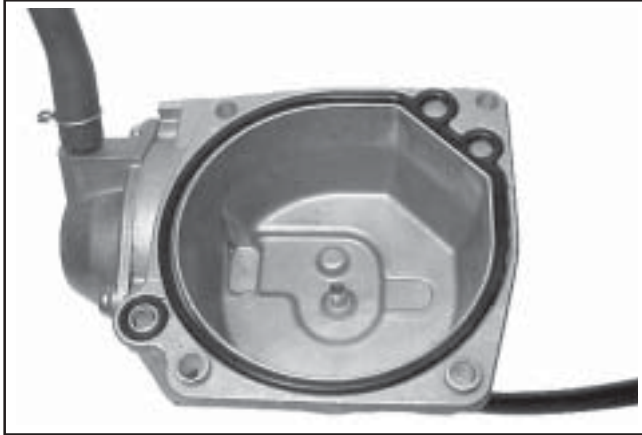

Figure 5-26. Installing Fuel Bowl O-Rings.
- When the proper float height is obtained, carefully install the new O-Rings for the fuel bowl and the accelerator pump transfer passage (if so equipped). See Figure 5-26.